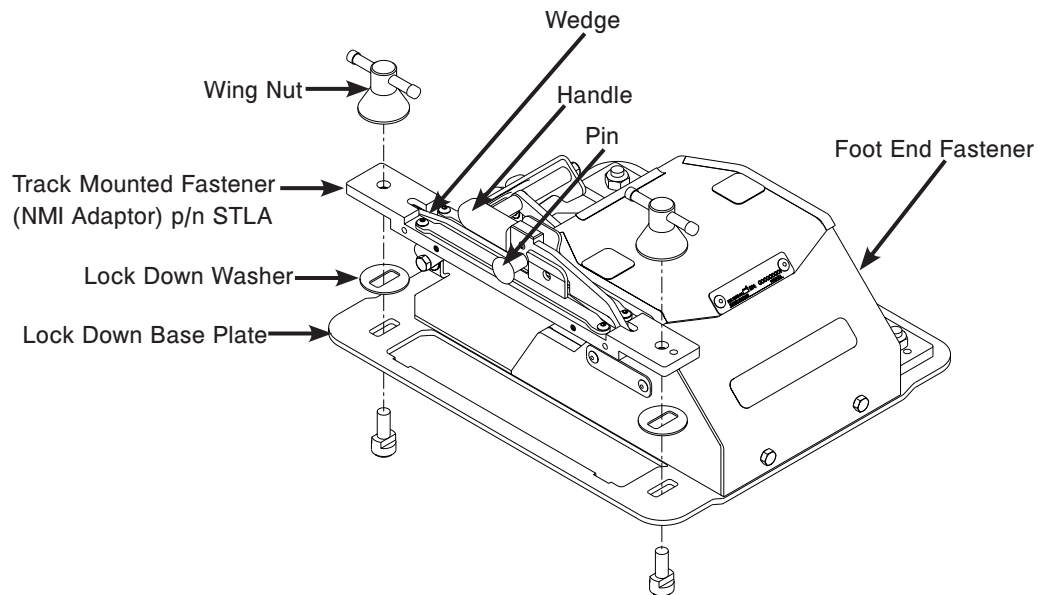

Figure 9: Assemble the Foot End Fastener
1. Position the four supplied lock down washers (p/n 6388-001-080) between the track mounted fastener (NMI adaptor) and the foot end fastener lock down base plate as shown in Figure 9.
2. Loosely tighten the wing nuts to attach the track mounted fastener (NMI adaptor) to the foot end fastener lock down base plate as shown in Figure 9.